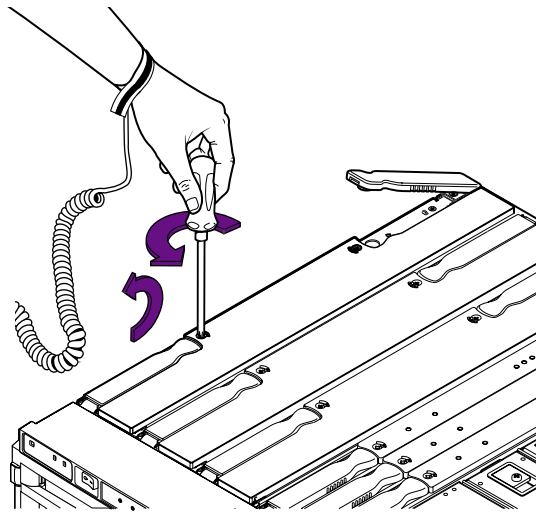

FIGURE 15-3 Unlocking the CPU/Memory Board Ejector Levers
8. Unlock the ejector levers on the CPU/Memory board using a Phillips no. 2 screwdriver (FIGURE 15-3).